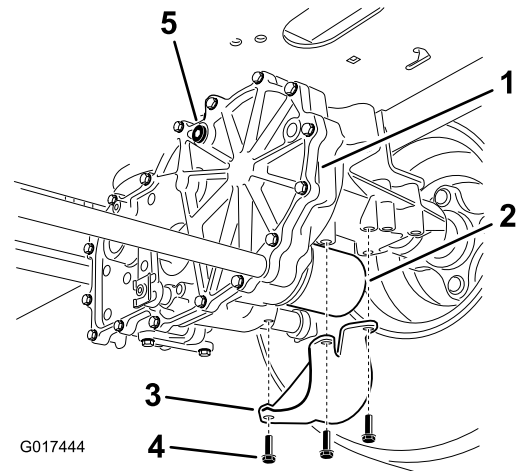

Figure 69
4. Locate the filter and guards on each transaxle-drive system (Figure 69).
5. Remove the 3 screws securing the filter guard and guard (Figure 69).